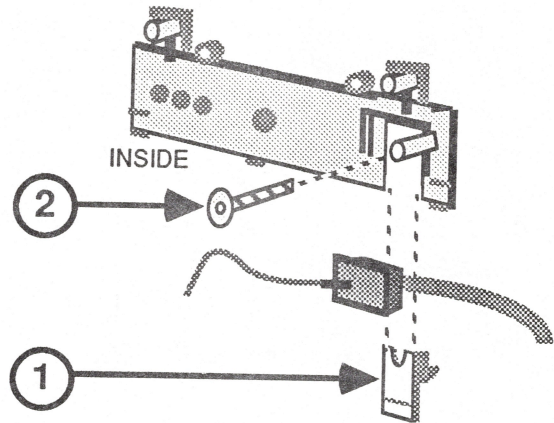

FIGURE 19
1. Removable rear panel (Rev. B only - see Figure 19)
2. From the logic board replacement kit, select the appropriately colored rear panel (to match the unit you are repairing) and fit the panel over the AC power cord (Figure 19). Slide the matching small plastic holding piece under the cord, as shown (Figure 19, #1) until it fits securely under the power cord.
3. Replace the screw that holds the power cord in place (Figure 19, #2).